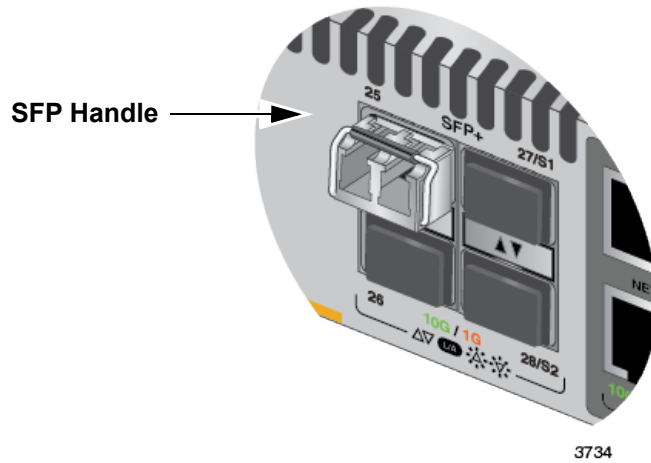

Figure 68. Positioning the SFP or SFP+ Handle in the Upright Position
- Verify the position of the handle on the transceiver. If the transceiver is in a top slot, the handle should be in the upright position, as shown in Figure 68. If the transceiver is in a bottom slot, the handle should be in the down position.